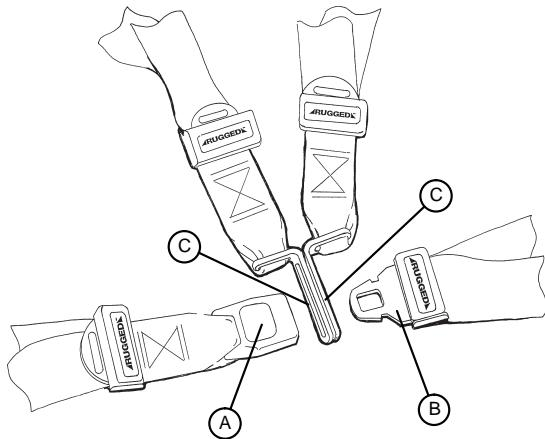

Figure 12 – Buckle the restraints
Press the red button (A) on the front of the buckle receiver to release the buckle tang (B) (Figure 12). Pull the buckle tang out of the receiver.
Push the tang into the receiver until you hear a click. Make sure that the buckle tang passes through both links (C) when you fasten the chest restraint (Figure 12).